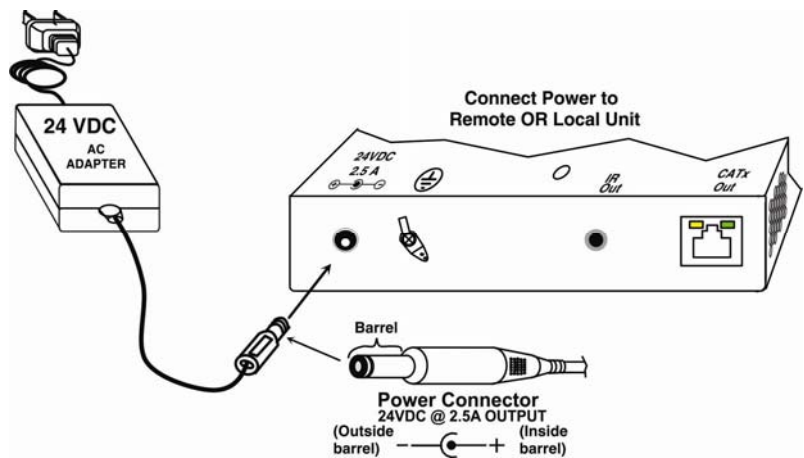

Figure 4- Connect the AC adapter to either the Remote Unit or the Local Unit
2. Connect an AC adapter power connector to the 24VDC port on **either** the Remote Unit or the Local Unit. Plug the AC adapter into a power outlet. The green LED on the RJ45 connector of both the Remote and Local Units should illuminate, indicating that a proper power connection has been made to them. (See Figure 4) The yellow LED will illuminate indicating communication between the Local and Remote units.